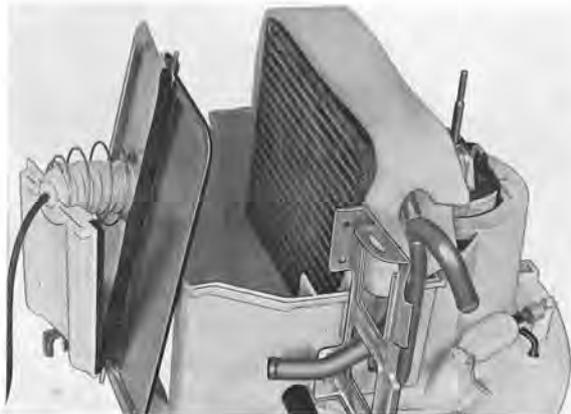

Fig. 8-76. Placing cell assembly
3. Remove the air intake left shutter shaft locking (2).
4. Undo the screws (3) for the inner end and lift off the end.
5. Undo the screws for the fan motor retainer (4).
8. Place the new cell assembly with insulation in position in the right half of the central unit (Fig. 8-76).